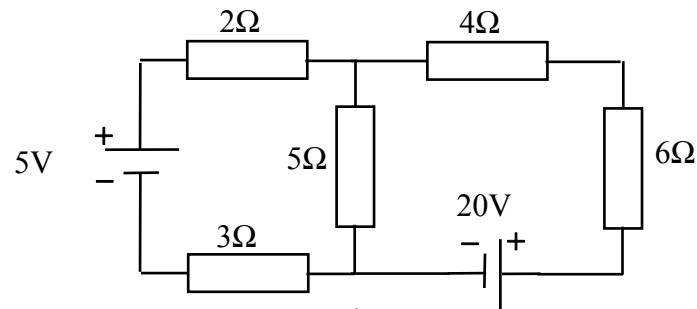
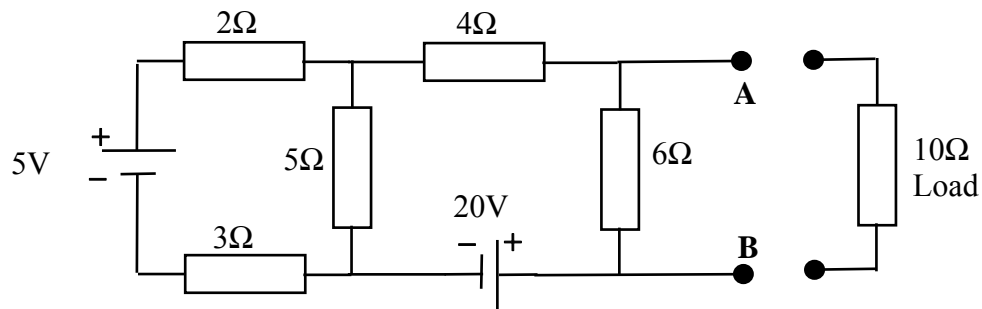

Figure 1.1
Figure 1.3
- a. For the network shown in Figure 1.1, find the value of the current through the 5Ω resistance using the method of superposition. Indicate the direction of the current. (6)
- c. The network of Figure 1.1 is to be used as a source for a load resistor of 10Ω , which is connected between A and B, as shown in Figure 1.3. Derive the Thevenin equivalent circuit for the source and hence calculate the power dissipated in the load resistor. (6)
- d. A rechargeable battery of nominal voltage of 5V is now connected between A and B (positive terminal connected to A) of Figure 1.3 in place of the 10Ω load resistor. Determine whether this battery will receive or deliver power and find the magnitude of the current passing through it when it is fully charged (5V). Assume that the battery has a negligible internal resistance. (2)
- e. Calculate the Norton equivalent circuit for the source network shown in Figure 1.3 (i.e. not including the load resistor). (2)